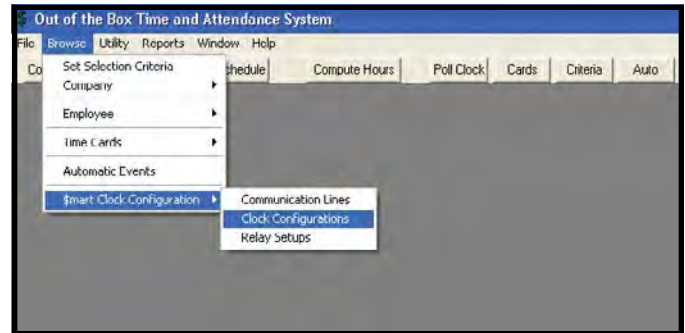

Figure 107. Out-of-the-Box™, Clock Configurations
- VIII. Click “Browse” > “Smart Clock Configuration” > “Clock Configurations” (see Figure 107).